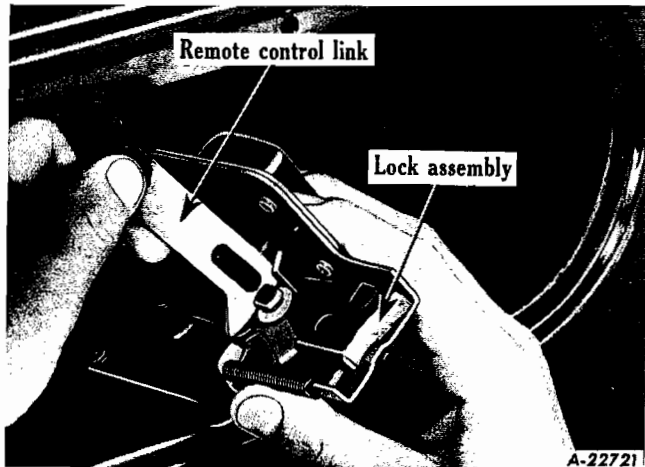

Fig. 42
11. Lower door lock assembly to panel opening. Rotate lock assembly 1/4 turn counter-clockwise to allow removal of door lock from remote control link (Fig. 42).